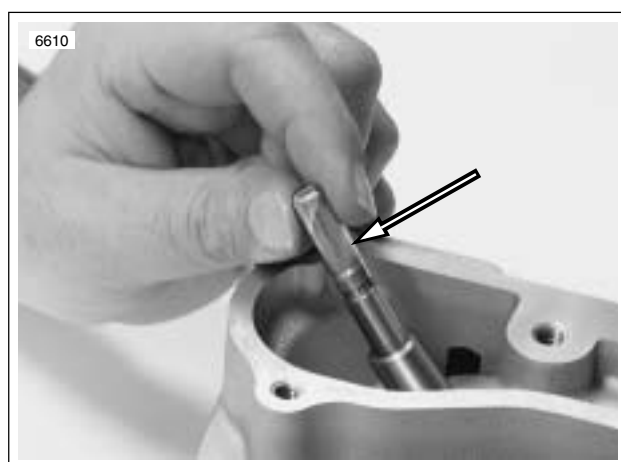

Figure 3-81. Valve Guide Seal Protector Sleeve
6. See Figure 3-81. Place a protective sleeve over the valve stem keeper groove.